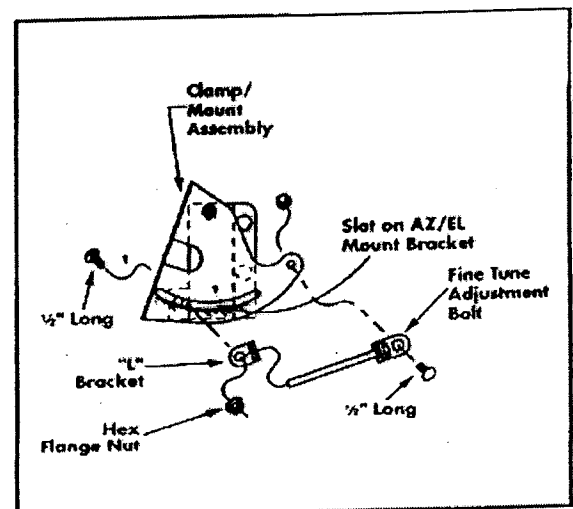

FIGURE 4
4. Assemble long fine tune elevation bolt to the AZ/EL mount elevation bracket that has an embossed scale using a $\frac{1}{2}$ " long carriage bolt and ESNA locknut. Tighten and then loosen $\frac{1}{4}$ turn to allow bracket to pivot. See Figure 4.
5. Thread the L-bracket onto the long fine tune adjustment bolt approximately 1 inch. Then assemble L-bracket to elevation slot with $\frac{1}{2}$ " long carriage bolt passing through square hole in the clamp tab, elevation adjustment slot, L-bracket and finally captured with a flange nut. Tighten nut and then loosen $\frac{1}{4}$ turn. See Figure 4.
15. Slide the Clamp/Mount on the Antenna assembly onto the universal mount mast and tighten the (2) Azimuth clamp bolts (See Figure 4) just enough that the antenna mount assembly can be easily rotated on the mast for azimuth adjustment.